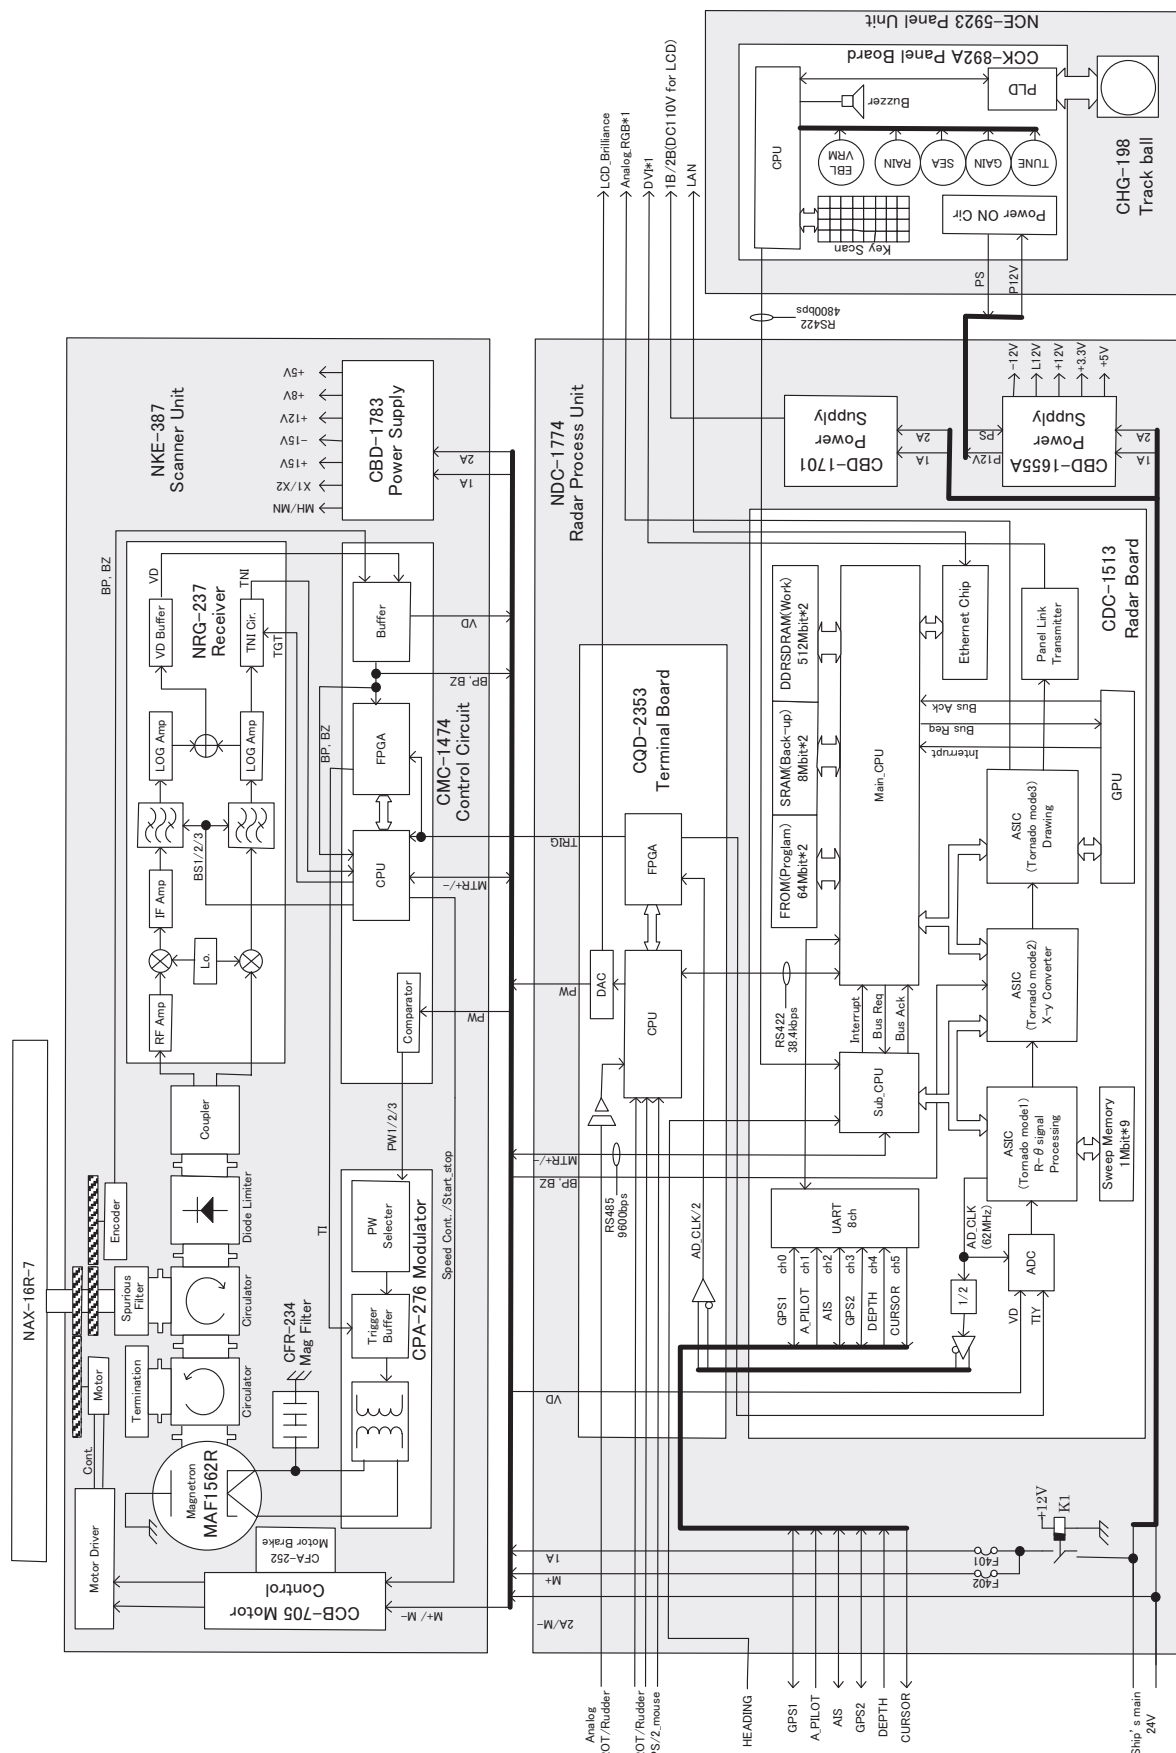

Fig.1 Block Diagram of JMR-611
- Fig.1 Block Diagram of JMR-611